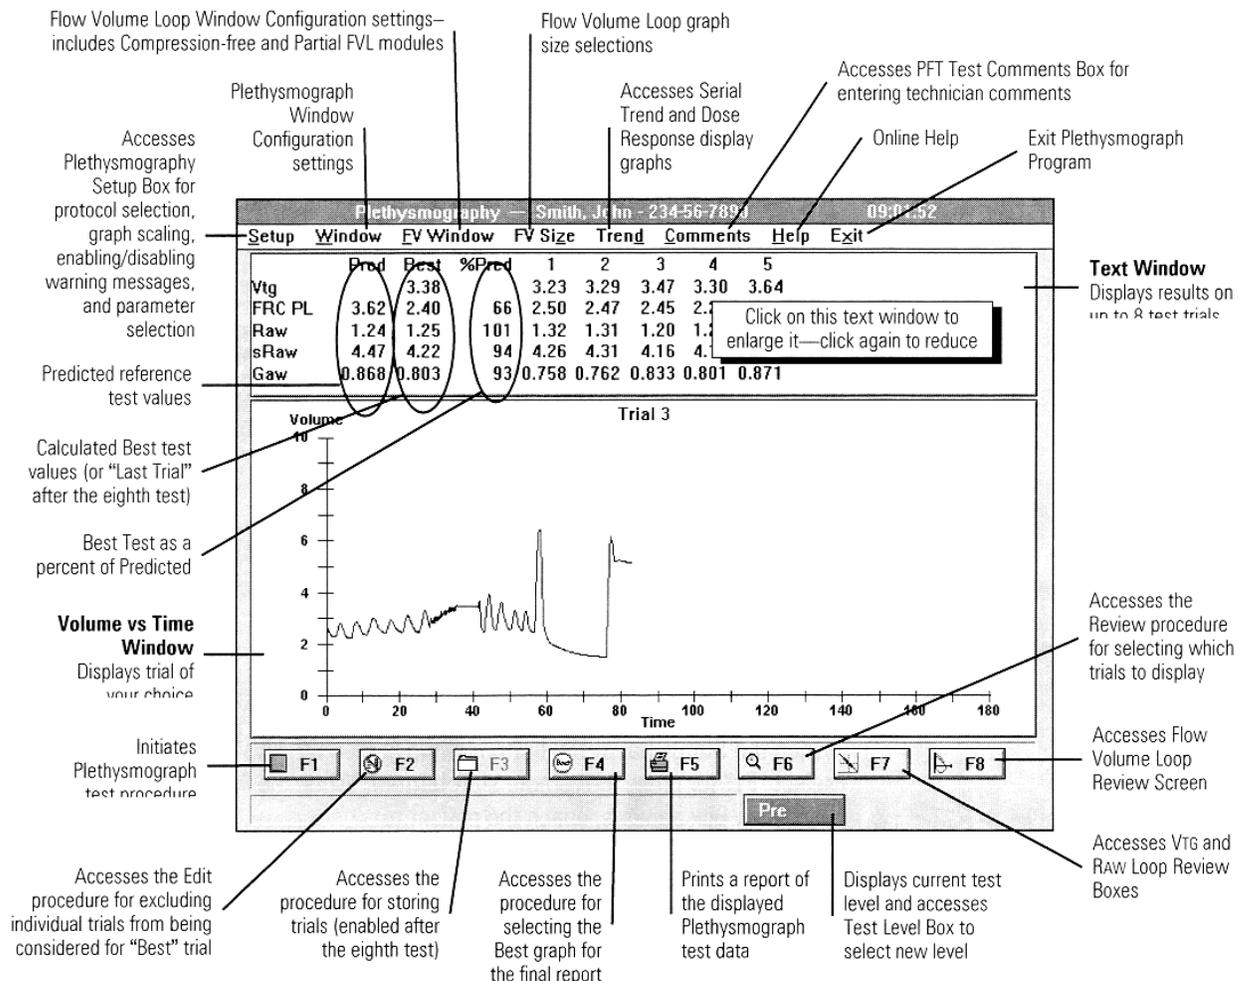

Figure 6-1 – Plethysmography Test Screen
2. From the **Pulmonary Function** menu, select **3 Plethysmography** to display the **Plethysmography Test** screen (Figure 6-1).